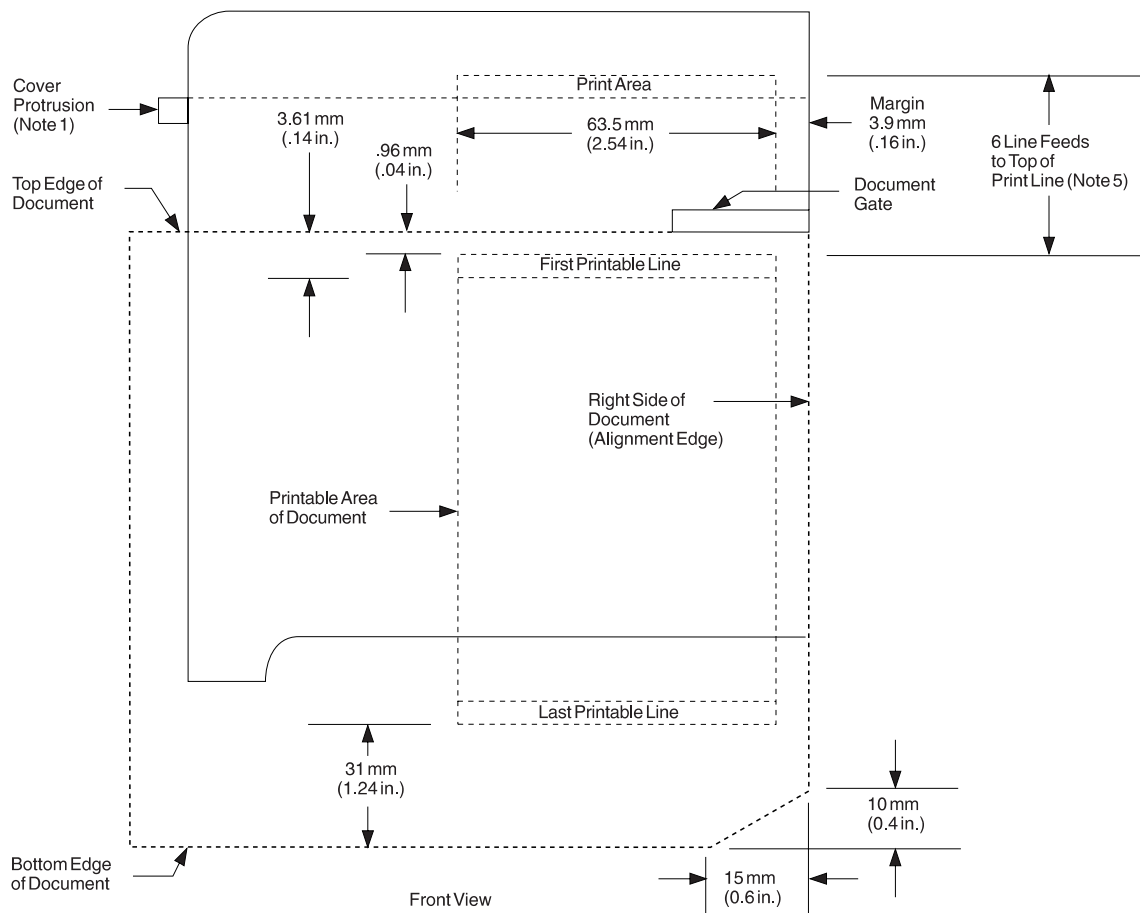
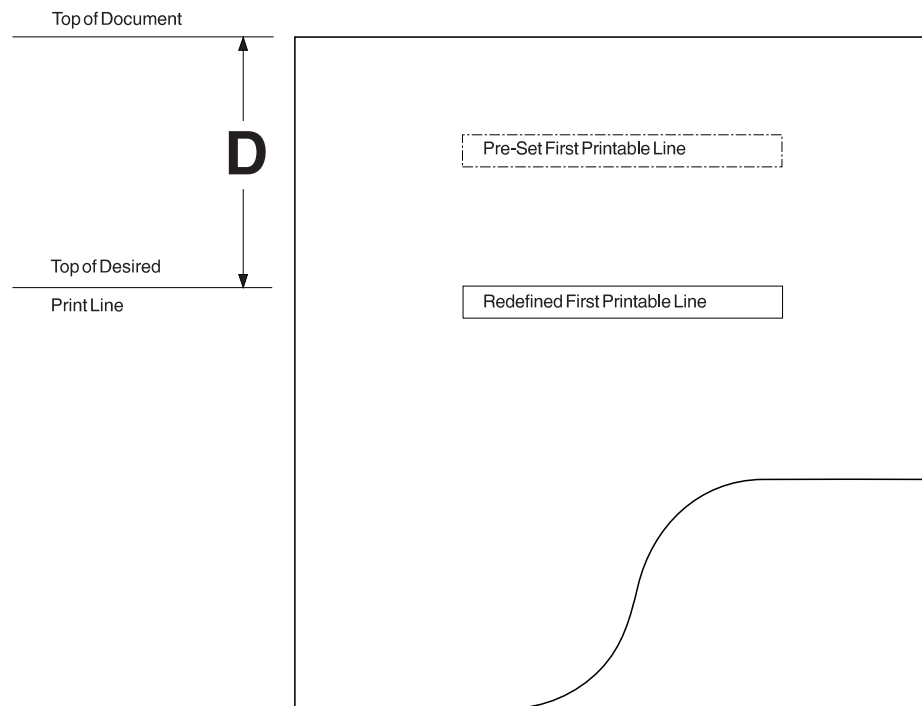

Figure 193. Alignment Dimensions for Printer Models 1 and 2
Figure 198. Calculating Distance from Top of Document to Top of Print Line for Printer Models 1 and 2
Use the dimensions that are provided in Figure 193 to design blank areas for printing terminal data on your forms and documents.
5. After the document makes contact with the document gate (stop), a minimum of six line feeds (66 motor steps) is required to advance the document to the first printable line. Additional steps are required if the print line is in a location other than those locations that are shown in Figure 193 on page 543. You can calculate the number of motor steps by referring to Figure 198 on page 549 to determine the top of the print line for any other line location.
1. Measure the distance D as shown in Figure 198 from the top of the document to the top of the appropriate print line.